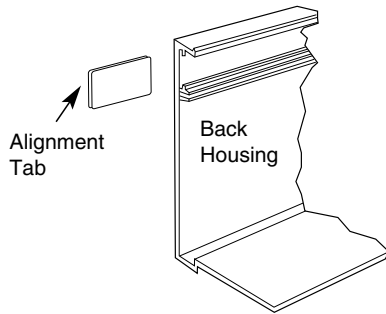

Fig. 6
- Mount the heaters on the wall using screws, bolts or anchors (by installer) which suit the wall construction. Alignment tabs can be inserted in adjoining back housings to assure even alignment. See Fig. 6 for details.